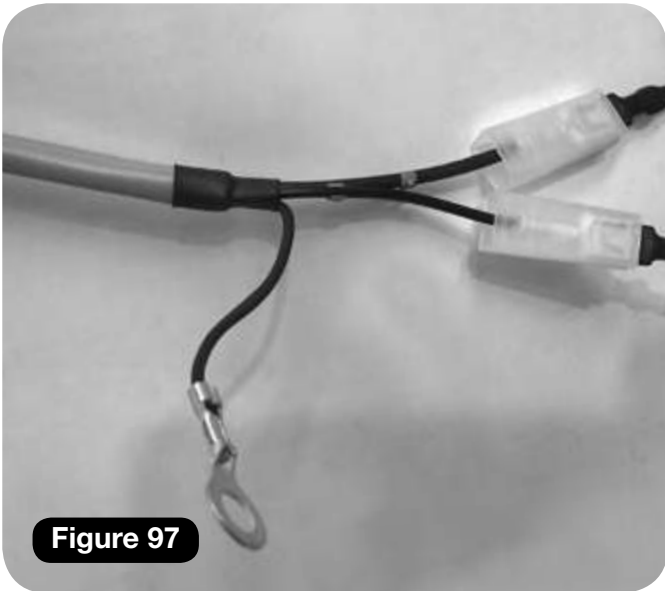

Figure 97
- 5 Connect the manual swivel over-ride loom to the motor loom (4 x Green 5) (**Figure 97**).